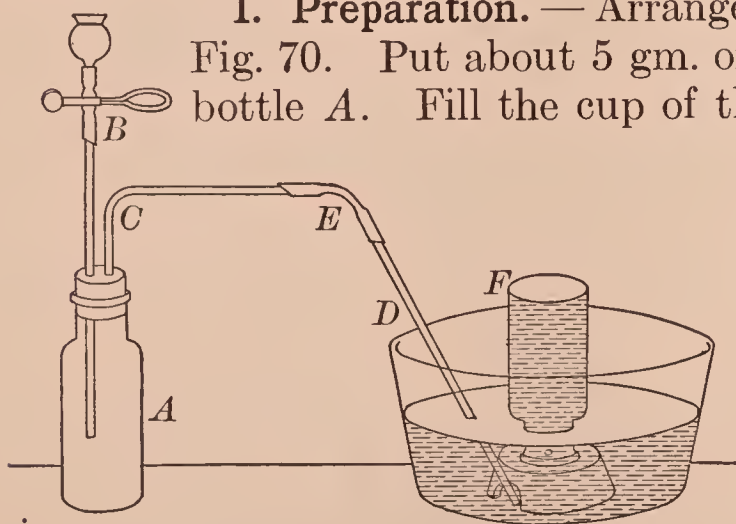

FIG. 70. — Apparatus for preparing acetylene
**APPARATUS.** — As in Fig. 70, three bottles.
**I. Preparation.** — Arrange the apparatus as in Fig. 70. Put about 5 gm. of calcium carbide in the bottle *A*. Fill the cup of the dropping tube with water, and let water drop very slowly into the bottle. Acetylene will be given off. Collect the gas over water as usual. Reject the first bottle. Collect two bottles of acetylene. Collect a third bottle of a mixture of air and acetylene thus: Fill the bottle at first only about half full of water, invert, and let the acetylene fill the bottle; set this bottle apart from the others.